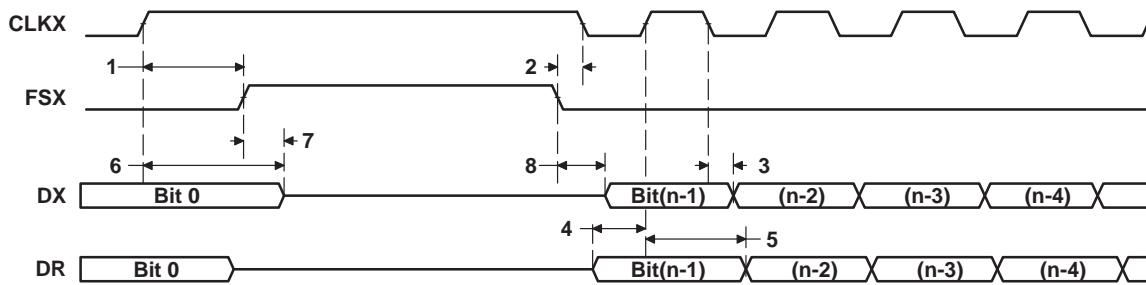

Figure 35. McBSP Timing as SPI Master or Slave: CLKSTP = 10b, CLKXP = 1
**timing requirements for McBSP as SPI master or slave: CLKSTP = 10b, CLKXP = 1†‡ (see Figure 35)**
**switching characteristics for McBSP as SPI master or slave: CLKSTP = 10b, CLKXP = 1†‡ (see Figure 35)**